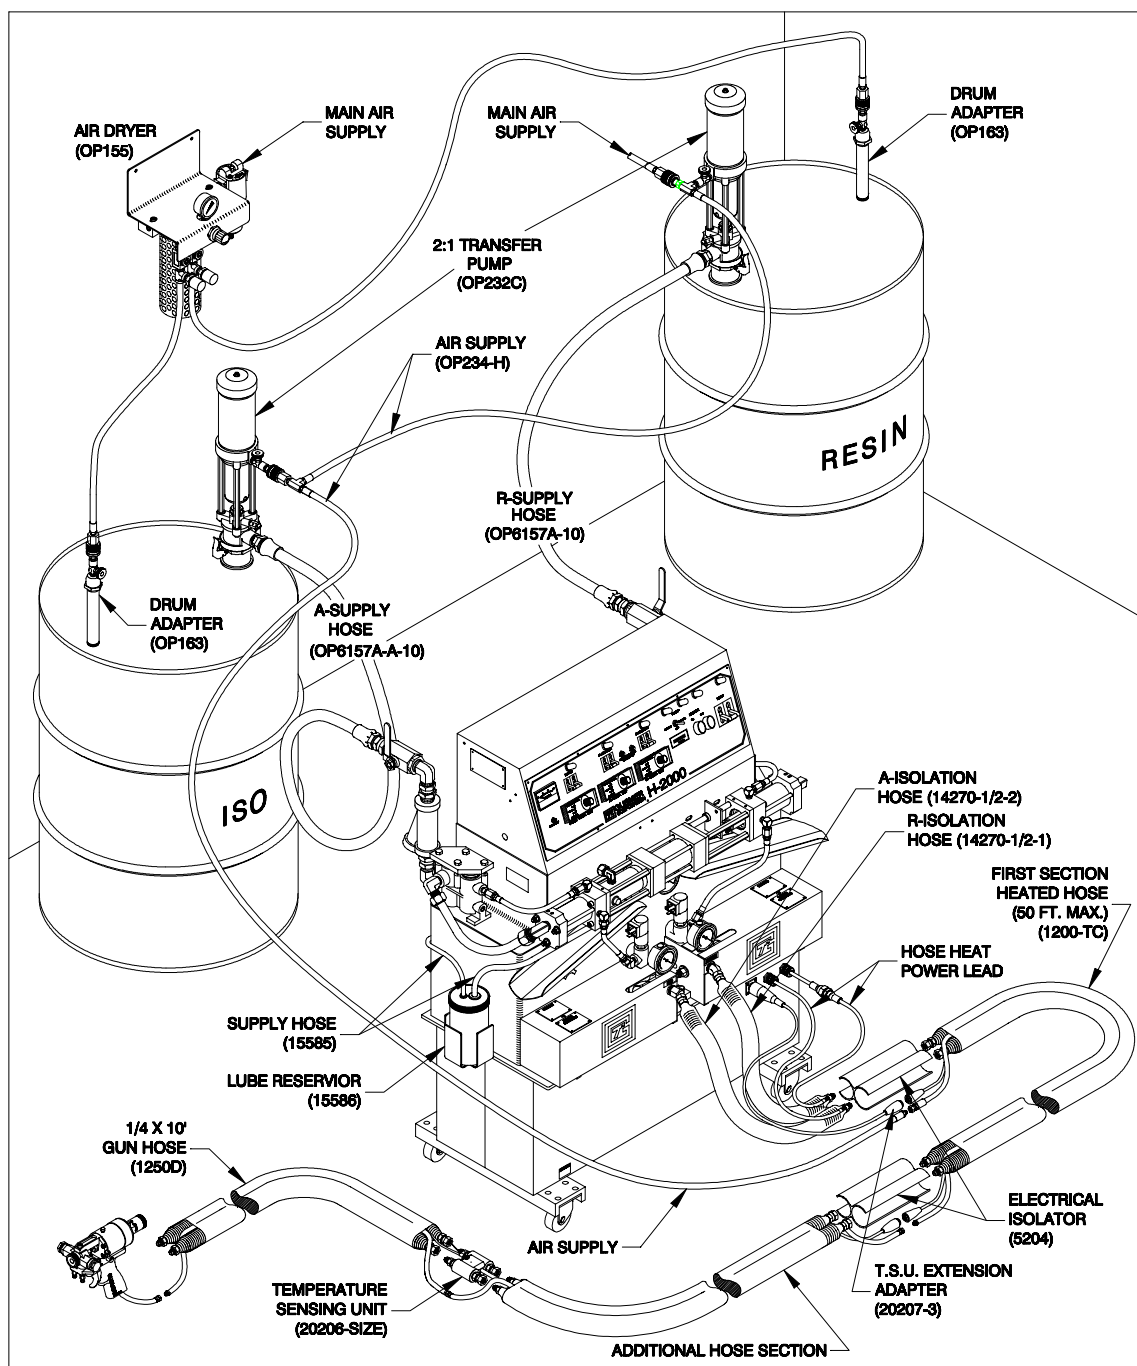

Figure 2. Typical Installation
* Refer to Figure 2 for additional parts required for set-up.